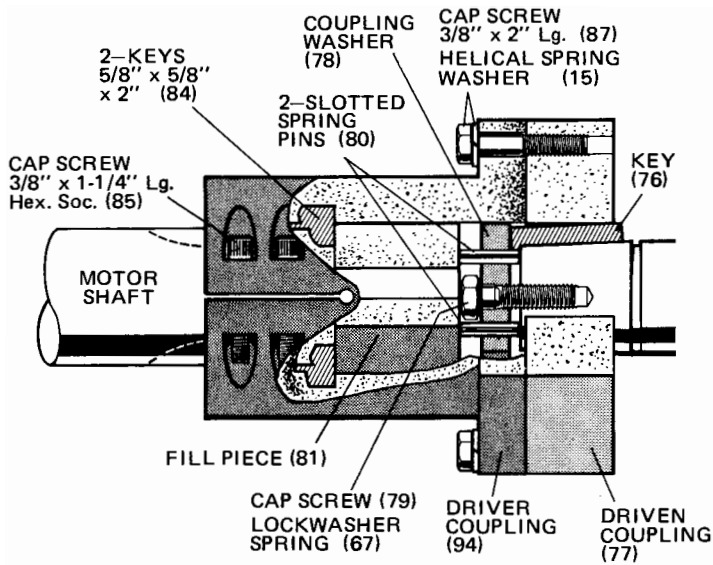

**FIG. 50 — ASSEMBLING MOTOR AND MOTOR SUPPORT TO ROTOR**
**ASSEMBLING MOTOR AND MOTOR ADAPTOR TO ROTOR SUPPORT (Refer to Fig. 50)**